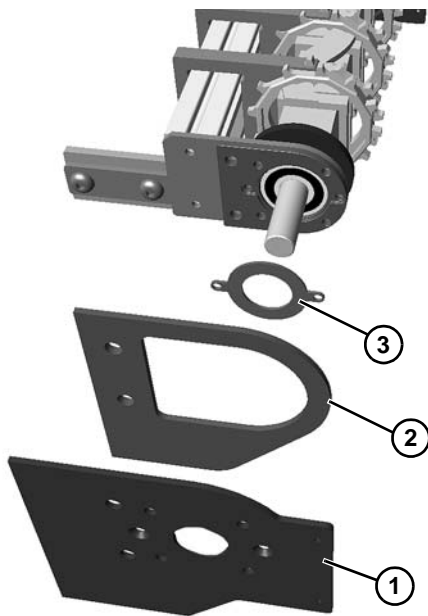

Figure 67
9. Remove cover plate (**Figure 67, item 1**), filler plate (**Figure 67, item 2**), and bearing stop plate (**Figure 67, item 3**) off of drive tail assembly.